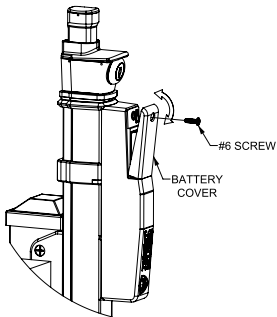

Figure 13
1. Remove the #6 flat head screw and battery cover from the latch (Figure 13).
3. Replace the battery cover and secure with the #6 screw, making sure to seat the cover fully to prevent water intrusion (Figure 13).